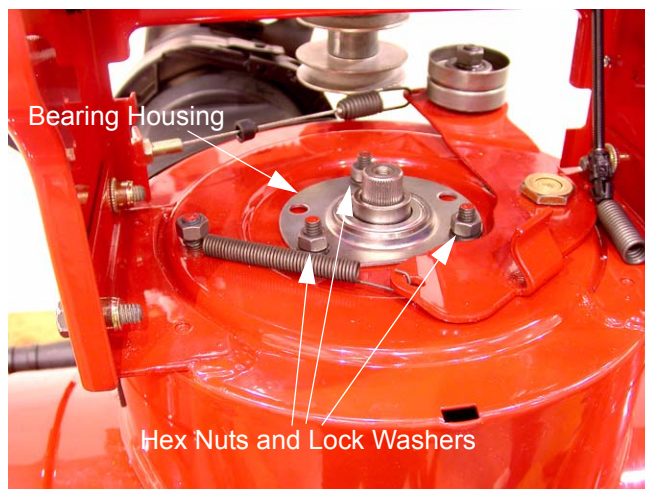

Figure 11.4
- 11.4. Using a 1/2" socket, remove the three hex nuts and lock washers securing the bearing housing to the auger housing. Set the bearing housing aside. See Figure 11.4.